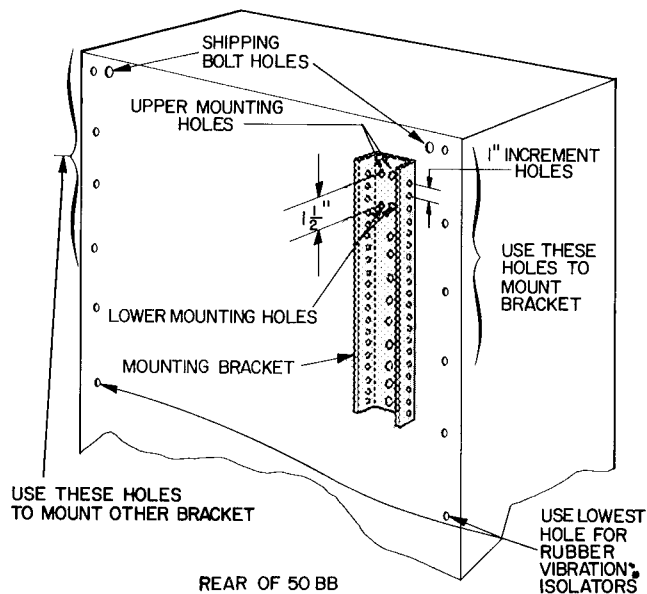

Fig. 4 - Installation of Mounting Brackets
Mounting Brackets - Two mounting brackets are supplied for mounting the 09BB unit to the 50BB unit (Fig. 4). These brackets have been designed to provide adjustable heights for the 09BB to the nearest 1/2 in. This is done by providing two sets of mounting holes on the bracket, spaced 1-1/2 in. apart. The upper mounting holes allow 09BB unit height adjustment in 1-in. increments starting 1 ft 10-1/2 in. from the floor. The lower mounting holes allow height adjustment in 1-in. increments starting 2 ft from the floor.
2. Select mounting holes and place bracket in position. Install with retaining screws and channel bolts in shipping holes (Fig. 4).
4. Install vibration isolators (supplied) in lowest hole each side of 50BB back panel (Fig. 4). Remove Tinnerman nut and install each vibration isolator with 5/16 in. plain washer (supplied in fastener package).